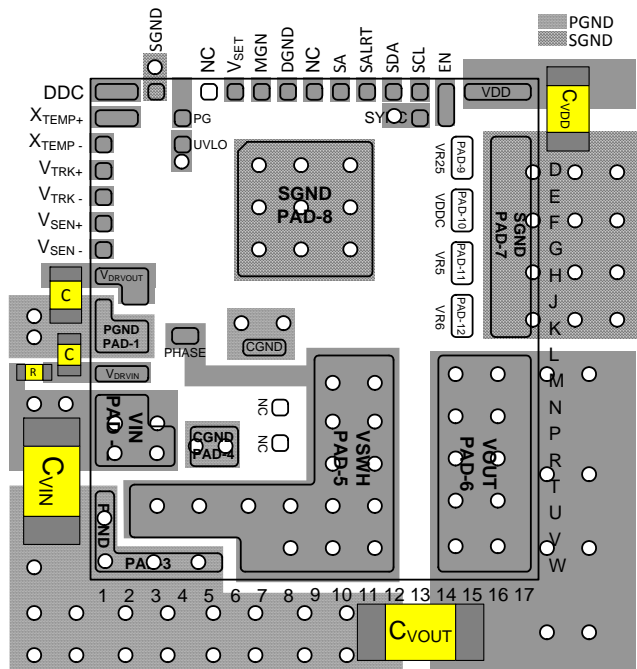
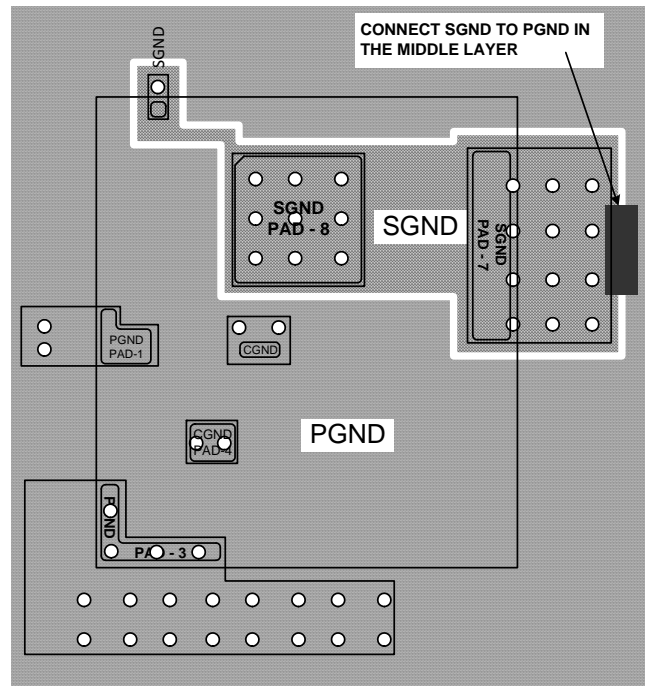

FIGURE 28. RECOMMENDED LAYOUT - TOP PCB LAYER
FIGURE 29. RECOMMENDED LAYOUT - CONNECT SGND TO PGND IN THE MIDDLE PCB LAYER AFTER ESTABLISHING SEPARATE SGND AND PGND
- For  $VDD > 6V$  recommended PCB layout is shown in Figure 28. Leave V25, VDDC, VR5, and VR6 as no connect.
- Establish separate SGND plane and PGND plane, then connect SGND to PGND plane as shown in Figure 29 in the middle layer. For making connections between SGND/PGND on the top layer and other layers use multiple vias for each pin to connect to inner SGND/PGND layer. Do not connect SGND directly to PGND on a top layer. Connecting SGND directly to PGND without establishing SGND plane will bypass the decoupling capacitor at internal reference supplies, making controller susceptible to noise. Connect CGND to PGND with vias as shown in Figure 28.